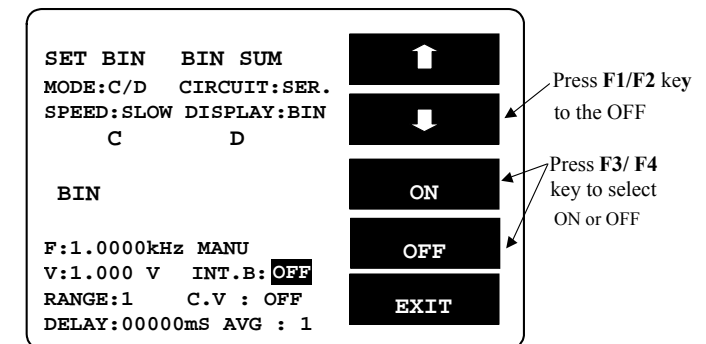

Figure 8-9
- Press F3 or F4 key to select ON or OFF shown as Figure 8-9 below.